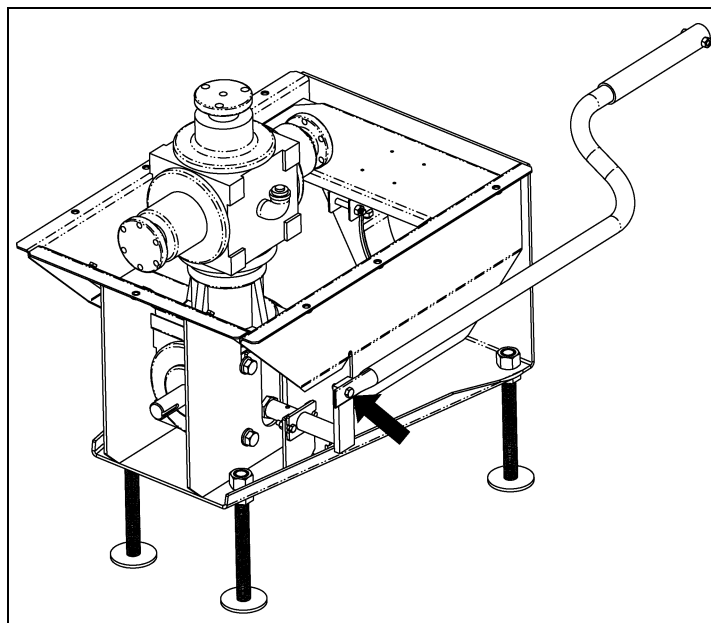

Figure 5E
7. Bolt the offset shift tube to the shift lever assembly on the gearbox using one 5/16" x 1" grade 5 bolt and lock nut. Put the bolt through the hole in the shift tube, then thread the lock nut onto the bolt. Next, turn the bolt into the shift lever assembly on the gearbox; thread the bolt into the shift lever until the bolt is holding the shift tube snug. Then back the bolt out 1/2 turn. Lock the bolt in place by tightening the lock nut against the shift lever. Be sure the shift tube and shift lever can move freely. (See Figure 5E.)